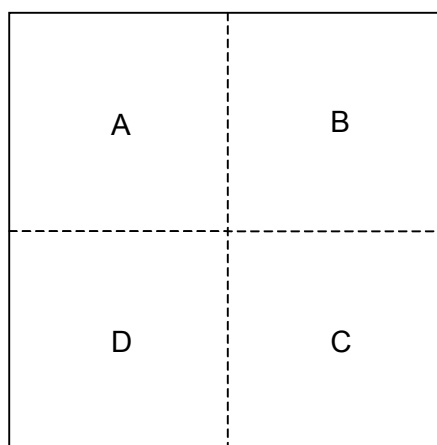

Figure 5-1: Test Weight Locations
2. Figure 5-1 shows test weight locations at the centers of the four quadrants of the scale. Place a test weight equal to 1/2 of the rated scale capacity at location A and record the weight reading. Then move the test weight to location B and record the weight reading. Continue until you have taken a weight reading at each of the four locations.